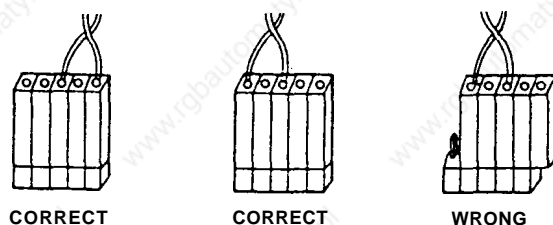

Fig. 2.6 Battery Connection
- ☐ Put the new battery in the holder and set the connector. The direction of the connector does not matter. Poor connection will not cause conduction. See Fig. 2.6.